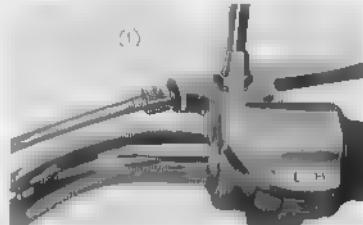
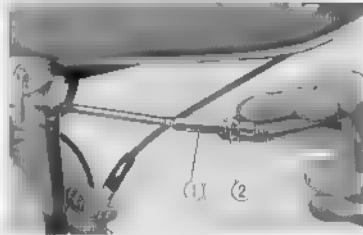

Fig. 4.16A ① Clutch cable upper adjuster
Fig. 4.16B ① Clutch cable adjuster ② Lock nut
- NOTE:** The adjustment of the clutch lever free travel can be made at both clutch cable upper adjuster ① (Fig. 4.16A) and at the clutch cable adjuster ① (Fig. 4.16B)